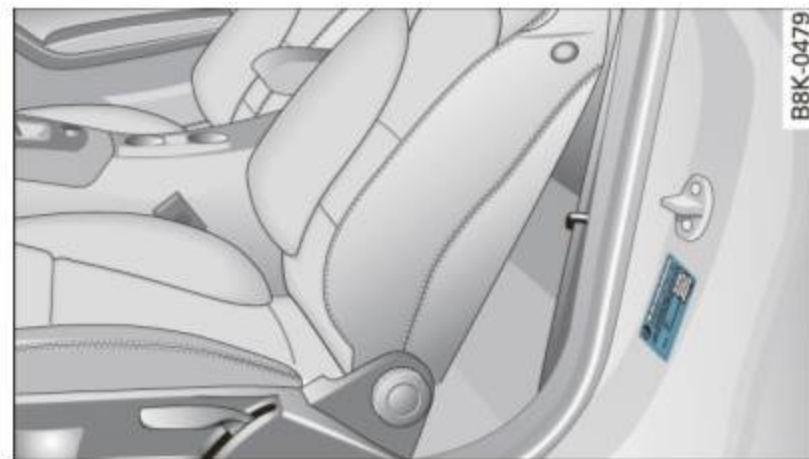

Fig. 219 Tire pressure label: located either on driver's side B-pillar or inside the fuel filler flap
See the illustration ⇒ *page 291*, fig. 219 for the location of the label either on driver's side B-pillar or inside the fuel filler flap (color of the actual label and exact location on the vehicle will vary slightly).
Remember, your safety and that of your passengers also depends on making sure that load limits are not exceeded. Vehicle load includes everybody and everything in and on the vehicle. These load limits are technically referred to as the vehicle's Gross Vehicle Weight Rating ("GVWR"). The Gross Axle Weight Rating ("GAWR") is the maximum load that can be applied at each of the vehicle's two axles. The Gross Vehicle Weight Rating and the Gross Axle Weight Rating are listed on the safety compliance sticker label located either on the driver's side B-pillar or on the inside of the fuel filler flap. The tire pressure label on your Audi lists the maximum combined weight of all of the occupants and luggage or other cargo that the vehicle can carry. For the location of the tire pressure label ⇒ *page 291*, fig. 219.
The tire pressure label on your Audi lists the recommended cold tire inflation pressures at maximum capacity for the new, original equipment tires that were on your vehicle at the time it was manufactured. For the location of the label ⇒ *page 291*, fig. 219.
The tire pressure label on your Audi also lists the maximum combined weight of all of the occupants and luggage or other cargo that the vehicle can carry. For the location of the label ⇒ *page 291*, fig. 219.
1. Locate the statement “THE COMBINED WEIGHT OF OCCUPANTS AND CARGO SHOULD NEVER EXCEED XXX KG OR XXX LBS” on your vehicle’s placard (tire inflation pressure label) ⇒ *page 291*, fig. 219.
3. Subtract the combined weight of the driver and passengers from “XXX” kilograms or “XXX” pounds shown on the sticker ⇒ *page 291*, fig. 219.